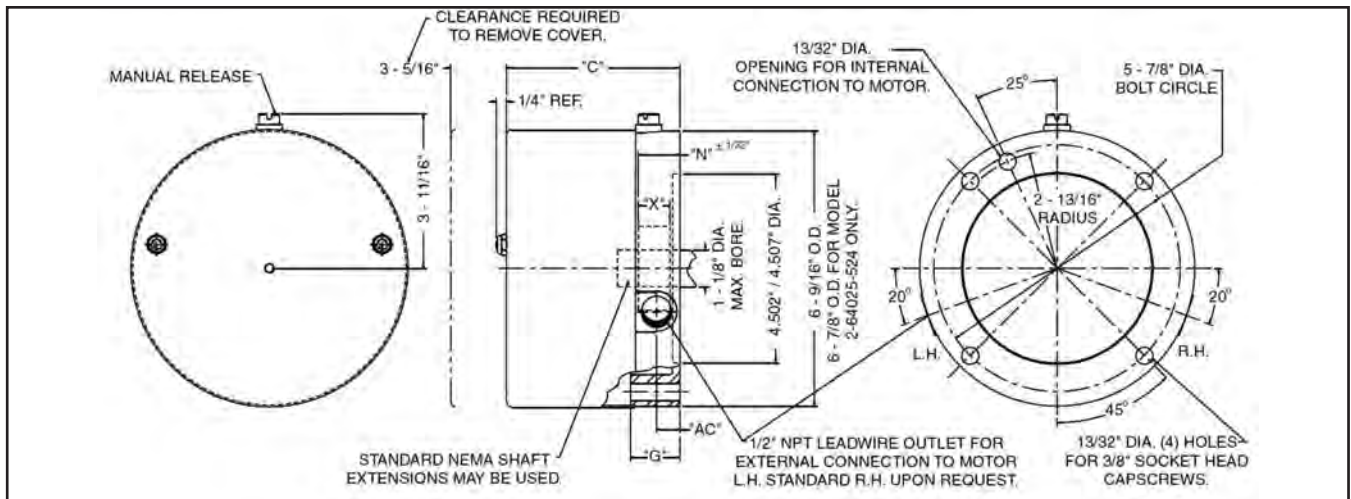

Figure 1
1. Remove hub (1) from brake and position it on motor shaft with key as shown in Fig. 1. Stamped part number on hub should face away from motor. Tighten hub setscrews with 8 to 10 lb-ft torque.
NOTE: Dimension "G" (Fig. 1) is the length of the mounting hole through brake bracket.